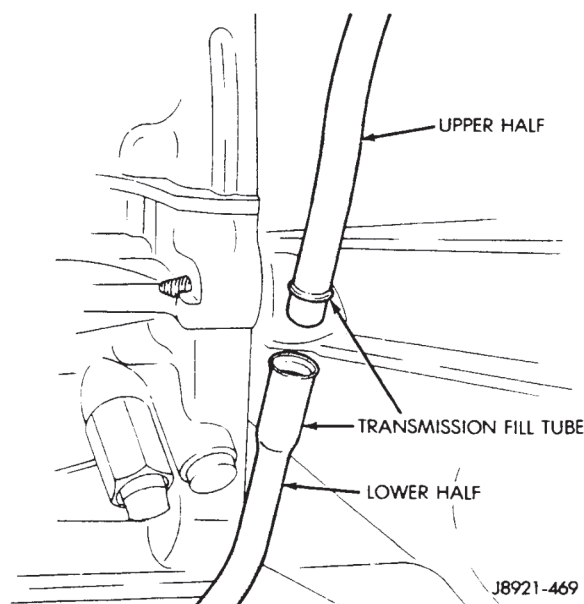

Fig. 49 Two-Piece Transmission Fill Tube
- (1) Raise vehicle.
- (2) Drain transmission fluid and reinstall oil pan drain plug.
- (3) Remove upper half of transmission fill tube (Fig. 49).
- (4) Disconnect cooler lines at transmission. Cooler lines have quick-disconnect fittings. Press fitting release tabs and pull cooler line and fitting out of case.
- (5) Support engine with safety stand and support transmission with jack.
- (6) Disconnect or remove following: transmission/transfer case shift linkage; necessary exhaust components; speedometer cable; front/rear propeller shaft; transmission wire harnesses; transfer case vacuum and wire harnesses.
- (7) Remove rear crossmember.
- (8) Disconnect transmission throttle cable at engine.
- (9) Disconnect necessary vacuum and fluid hoses.
- (10) Remove starter motor.
- (11) Remove converter-to-drive plate bolts.
- (12) Remove converter housing-to-engine bolts.
(13) Secure transmission (and transfer case assembly on 4WD models) to transmission jack with safety chains. Then remove transmission.